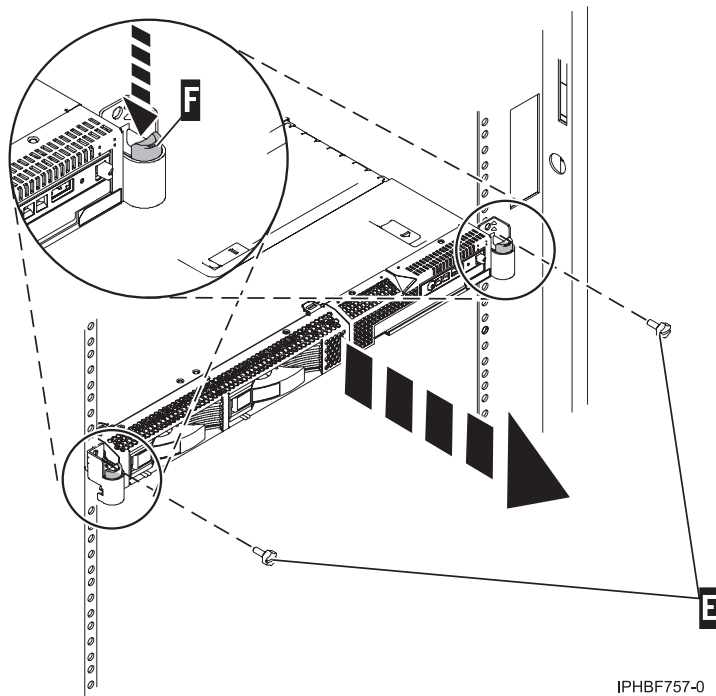

Figure 98. Rack latches and screws.
5. Replace and tighten the two screws E that secure the system unit to the rack as shown in Figure 98.